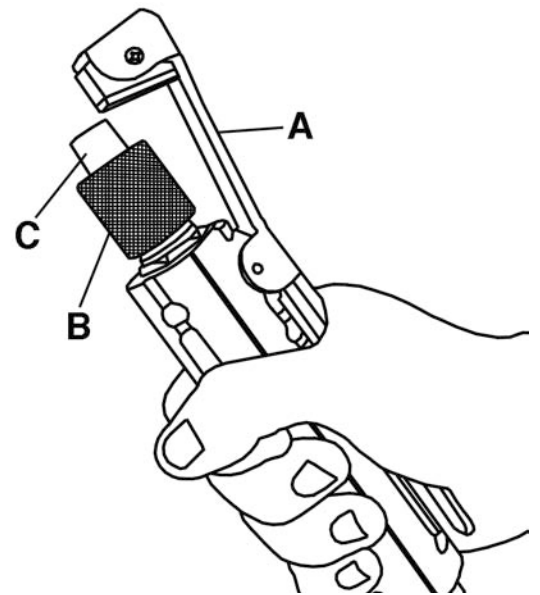

Figure 7
Apply pressure on the media gun lever (A) Fig.7, loosen and remove nut (B), remove the ceramic nozzle (C) and replace it with the desired size and reinstall it in the reverse order.
Point the media gun at the workpiece and press on the gun lever (see Fig.7) to begin sandblasting. Move the media gun in a slow circular motion, try to keep the media gun about 4" away from the workpiece. It will be necessary to experiment with different pressures, abrasives and ceramic nozzles to gain practical experience.